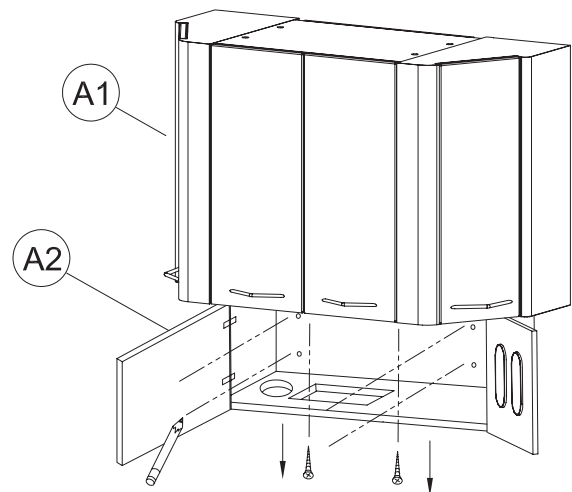

FIGURE 6A
Mark hole locations for fasteners through (4) holes in the back of the (A2) lower section. Remove the (2) wood screws holding the (A2) lower section to the (A1) upper section and remove the (A2) lower section. See Figure 6A